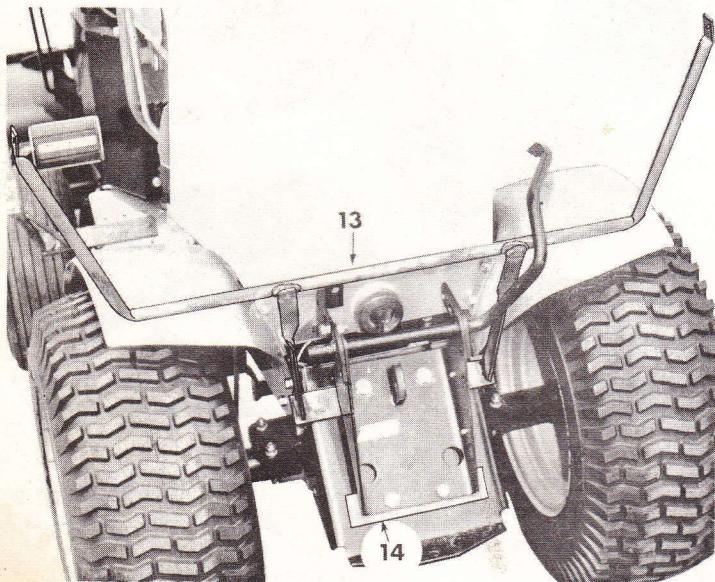

FIGURE 11
**STEP 10: SEE FIGURES 11 & 12:**